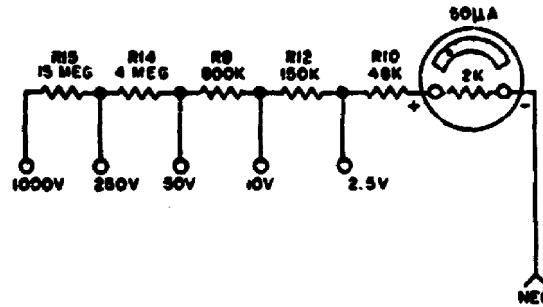

Figure 9. DC voltmeter.
c. A 2,000-ohm (2K), 50 microampere (50 μ A) meter movement is being used in the circuits illustrated in figures 9 and 10. The 2K states the internal resistance of the movement and the 50 μ MA states the amount of current required to deflect the movement's needle to the full scale mark. By using Ohm's law the voltage across the meter, when the meter is indicating full scale, can be determined:
d. Figure 9 shows the simplified schematic diagram of a typical DC voltmeter. The meter movement and associated circuit provides voltage measurement ranges of 0-2.5VDC, 0-10VDC, 0-50VDC and 0-1,000VDC. When 2.5VDC is correctly applied between the negative meter input and the 2.5V Jack, 50 μ A will flow in the circuit and the meter will deflect to full scale. The current is limited to 50 μ A by the combination of the 48K resistance in the circuit and the 2K resistance of the meter movement.
e. Organizational maintenance personnel should be able to isolate the cause of simple meter malfunctions. The meter shown in figure 9 responds to voltages applied on the 2.5VDC, 10VDC and 50VDC ranges, but the pointer remains at zero when voltage is applied to the 250VDC or the 1,000VDC ranges. What is wrong? The answer to this question should be obvious to organizational maintenance personnel. When requesting repair they would state "R14